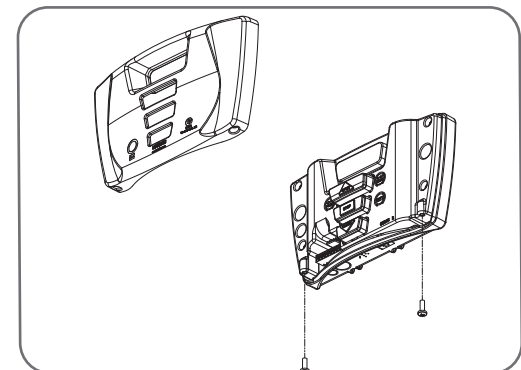

Fig 8.2
- Unscrew the screws at the bottom of the logic console cover (Fig.8.2) and remove the cover to access the PREV, NEXT and SET buttons.